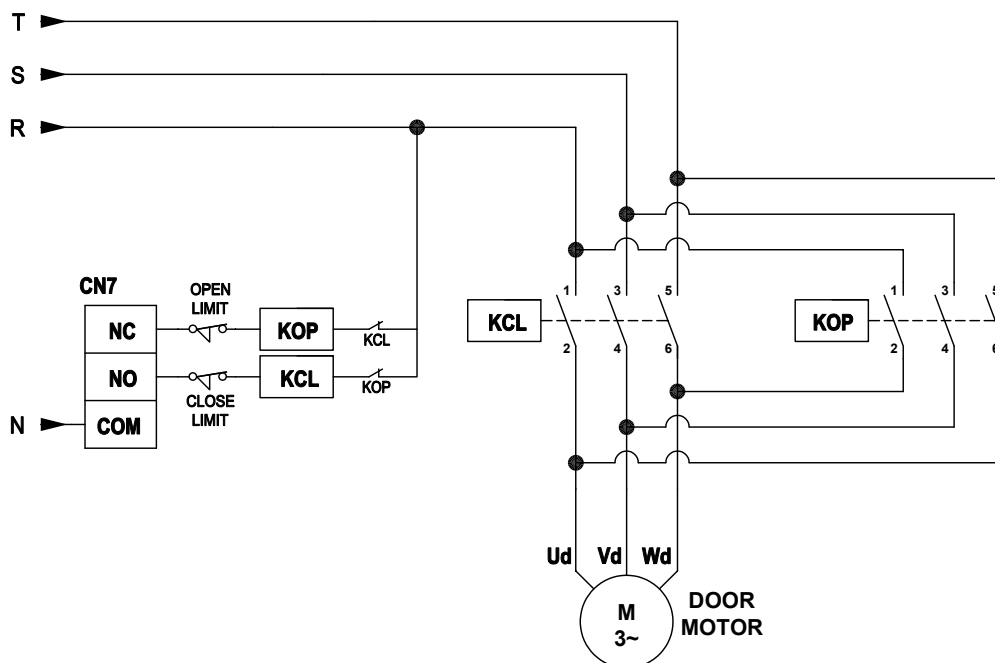

Figure 10.0 - Three-Phase Automatic Door Connections
The terminals of operating the Three-Phase Automatic Door are wired and connected as illustrated in Figure 10.0.
- The Normally Open (NO) terminal (CN7) is responsible for closing the Three-Phase Automatic Door.
- The Normally Closed (NC) terminal (CN7) is responsible for opening the Three-Phase Automatic Door.
- The terminals of the closing and opening limit switches must be combined into the Three-Phase Automatic Door operation circuit as illustrated in Figure 10.0.